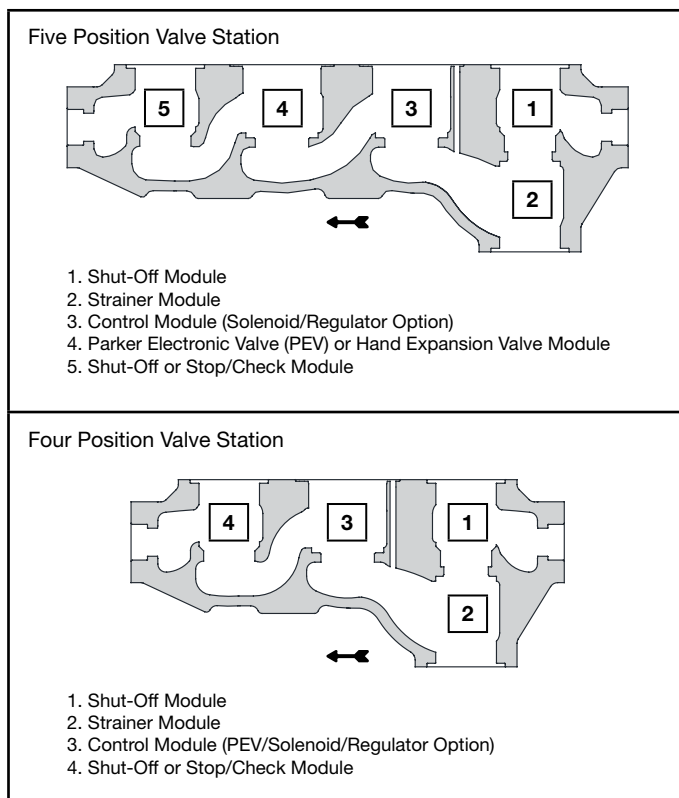

Figure 1: PVS Housings
1. The flow coefficient shown is for the control module in position three shown in Figure 1.
The PVS is an innovative design which combines several different functions into one compact valve station. This multi-module platform is available in a four or five position housings, as shown in Figure 1, with the capability of interchangeable modules: